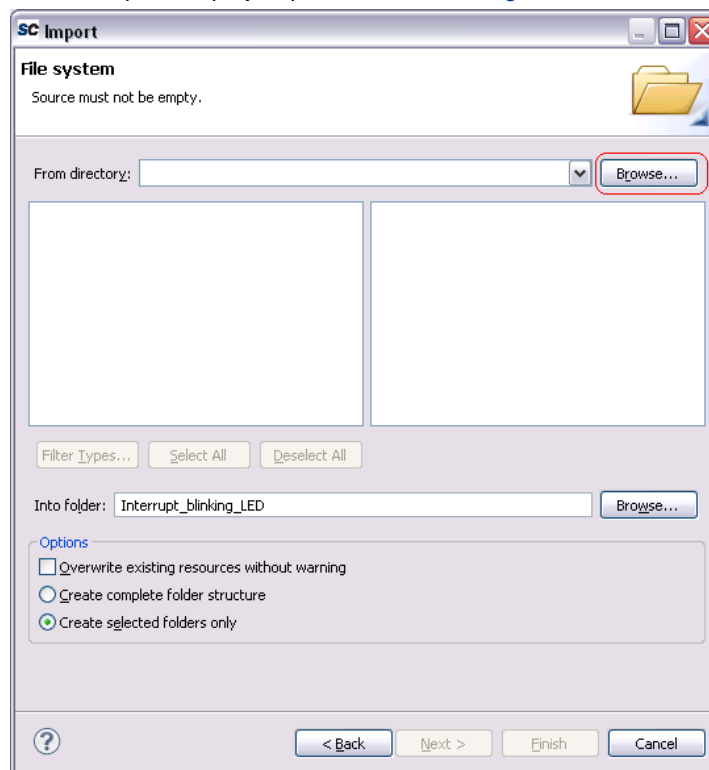

Figure 21 Open the Project Path
- Click **Browse** to open the project path, as shown in Figure 21.